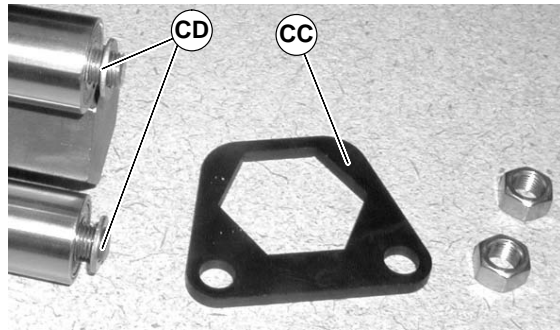

Figure 58
- Remove support plates (CC of Figure 58) and washers (CD).